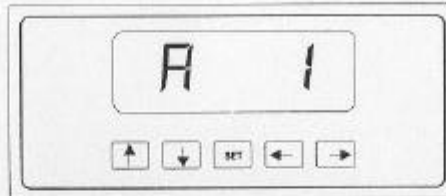
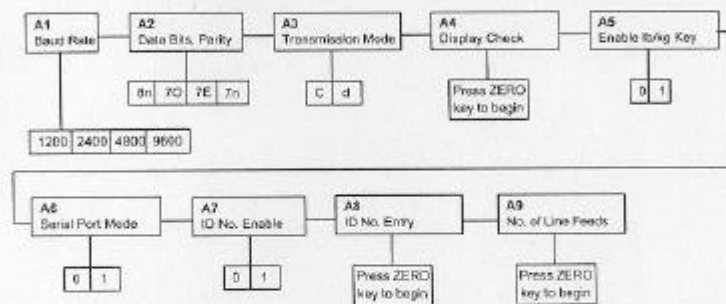

Figure 3-3: User Menu Key Assignments
Figure 3-4: User Menu Chart
2. Use the right or left directional keys shown in Figure 3-3 to move right or left in the Setup ("F") menu until the indicator shows "A 1".
Use the directional keys shown in Figure 3-3 to move around in the User Menu Chart shown in Figure 3-4 on the following page.